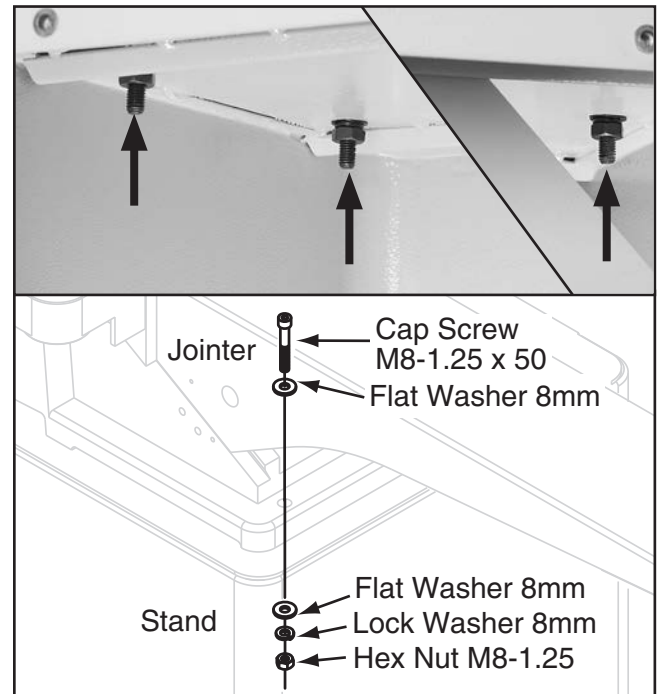

Figure 8. Jointer secured to stand.
7. Secure the jointer to the stand with the M8-1.25 x 50 cap screws, washers, and hex nuts, as shown in **Figure 8**.